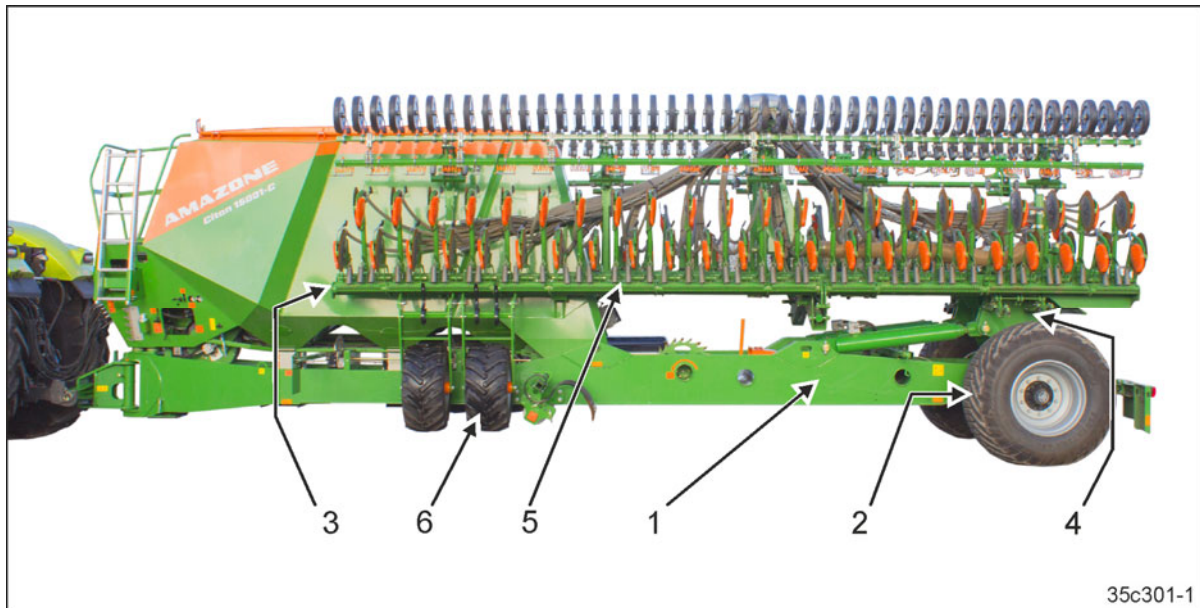

Fig. 38
- a main frame (Fig. 38/1) with running gear (Fig. 38/2) and hopper (Fig. 38/3).
- a foldable rear frame (Fig. 38/4)
- two implement sections that can be folded for transport (Fig. 38/5)
- Support wheels for the implement sections (Fig. 38/6).